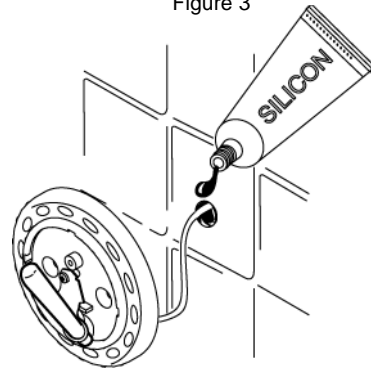

Figure 4
7. Screw or glue the sensor cover to the wall. Cover the temperature holder by twisting the cap. Figure 4.